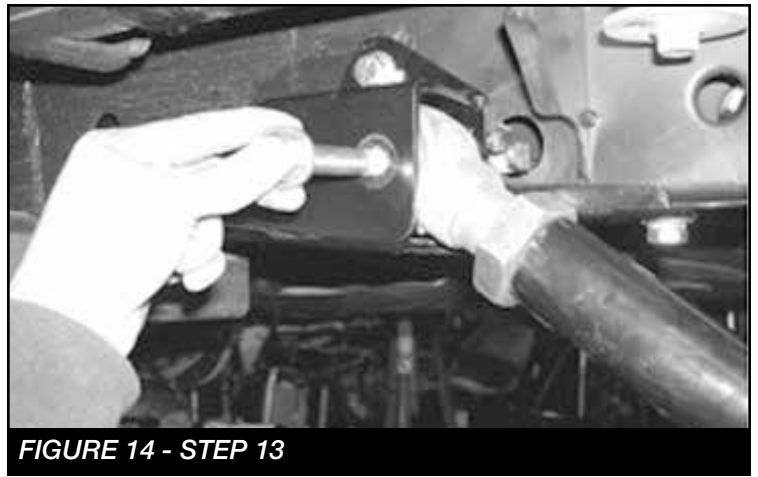

FIGURE 14 - STEP 13
13. Remove the 9/16" bolt from the frame pocket. Install the FT50518BK (lower link) and FT50415 (1" misalignments) with the 9/16" bolt at the new frame mount and factory bolt at the axle mount. Torque the 9/16" hardware to 184 ft. lbs. and the factory hardware to 160 ft-lbs. **SEE FIGURE 14**